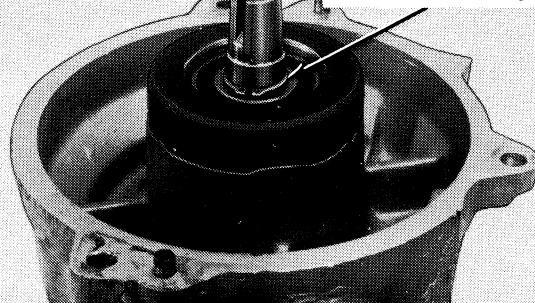

Figure 5-21. Press Crankshaft From Case
10. See Figure 5-21. Remove the retaining ring from the circuit breaker shaft. Support the fan side of the crankcase on a press bed and press the crankshaft assembly from the case, 300-350 lbs of force may be required.